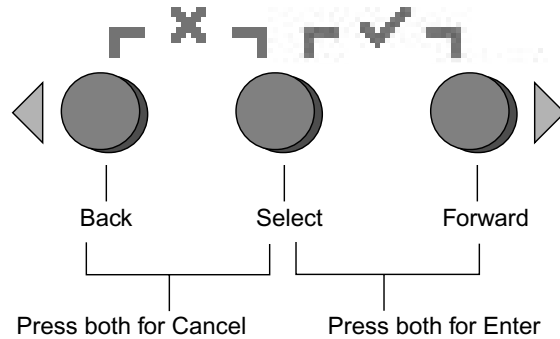

FIGURE 1-6 Operator-Panel Buttons
1. **Press any operator-panel button on the server front panel (see FIGURE 1-6).**